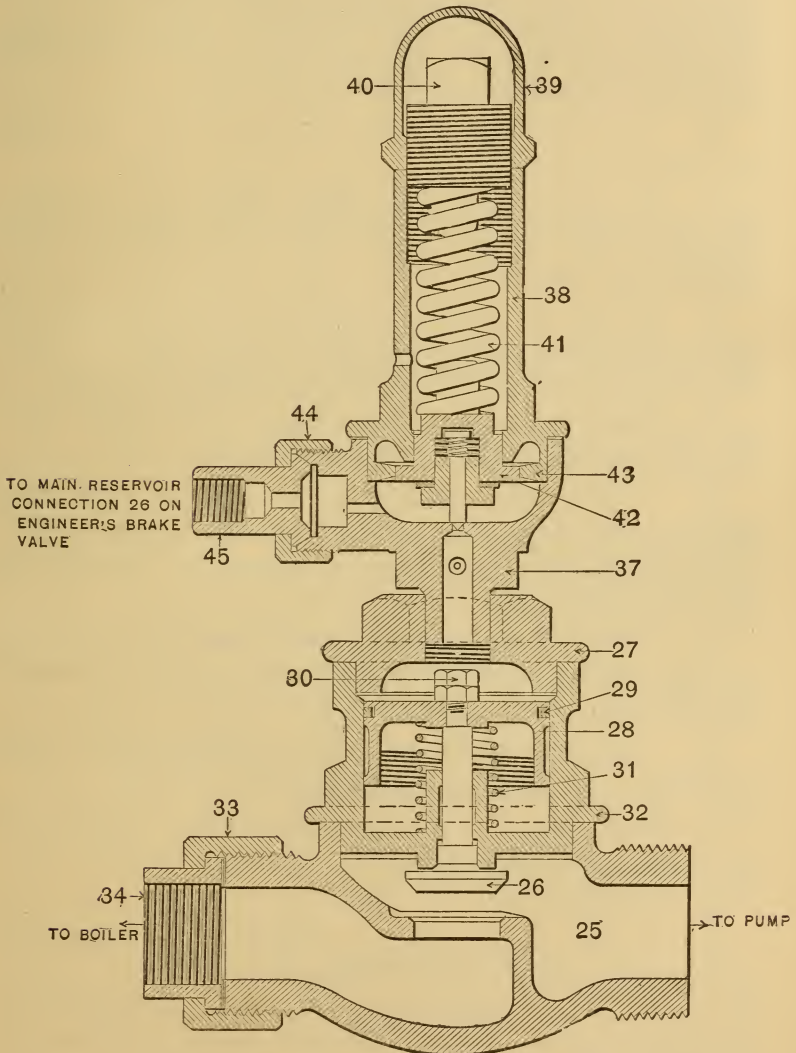

FIG. 42.--IMPROVED PUMP GOVERNOR.
Q. Explain the duty of spring 41 (Fig. 42).
A. It allows air pressure to reach the top of piston 28 (Fig. 42), forcing it down and closing valve 26.
Q. What would be the effect if the release port 37 (Fig. 42) were closed by dirt?